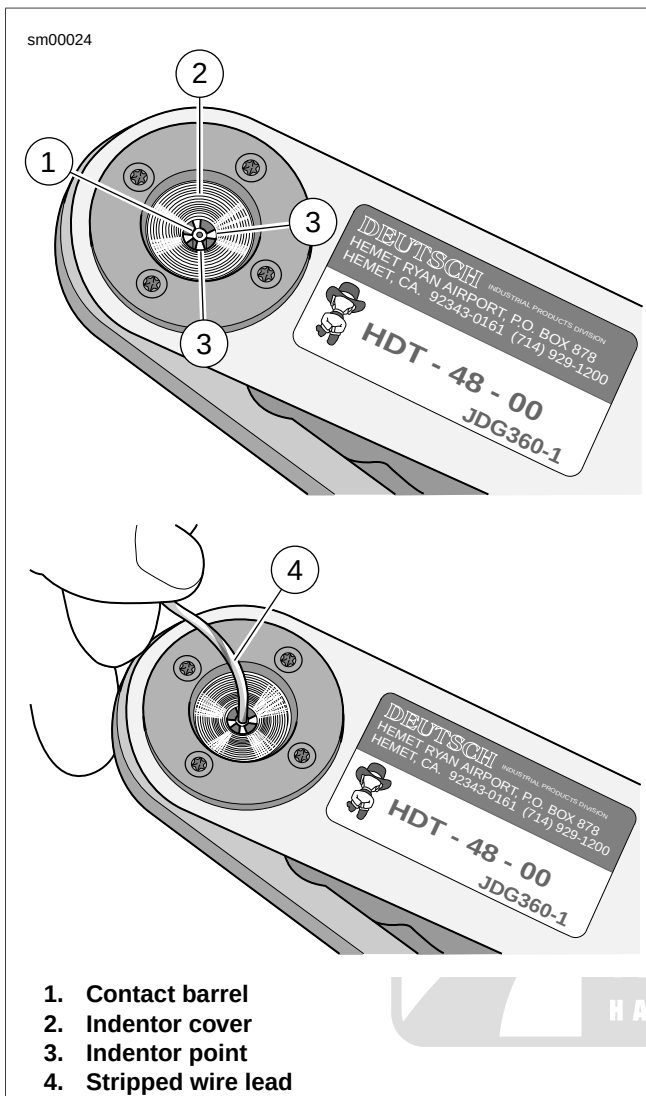

Figure A-35. Deutsch Solid Barrel
1. See Figure A-35. Turn tool over and drop contact barrel (1) into indenter cover (2) hole with the wire end out.
3. Slowly squeeze handles of crimp tool until contact is centered between the four indenter points (3).
4. Insert bare wire core strands of stripped wire lead (4) into contact barrel. Squeeze handle of crimp tool until tightly closed. Tool automatically opens when the crimping sequence is complete.